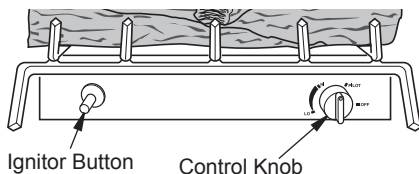

Figure 29 - Control Knob and Ignitor Button Location
5. Slightly press and turn control knob counterclockwise  to the PILOT position. Press in control knob for five (5) seconds (see Figure 29).